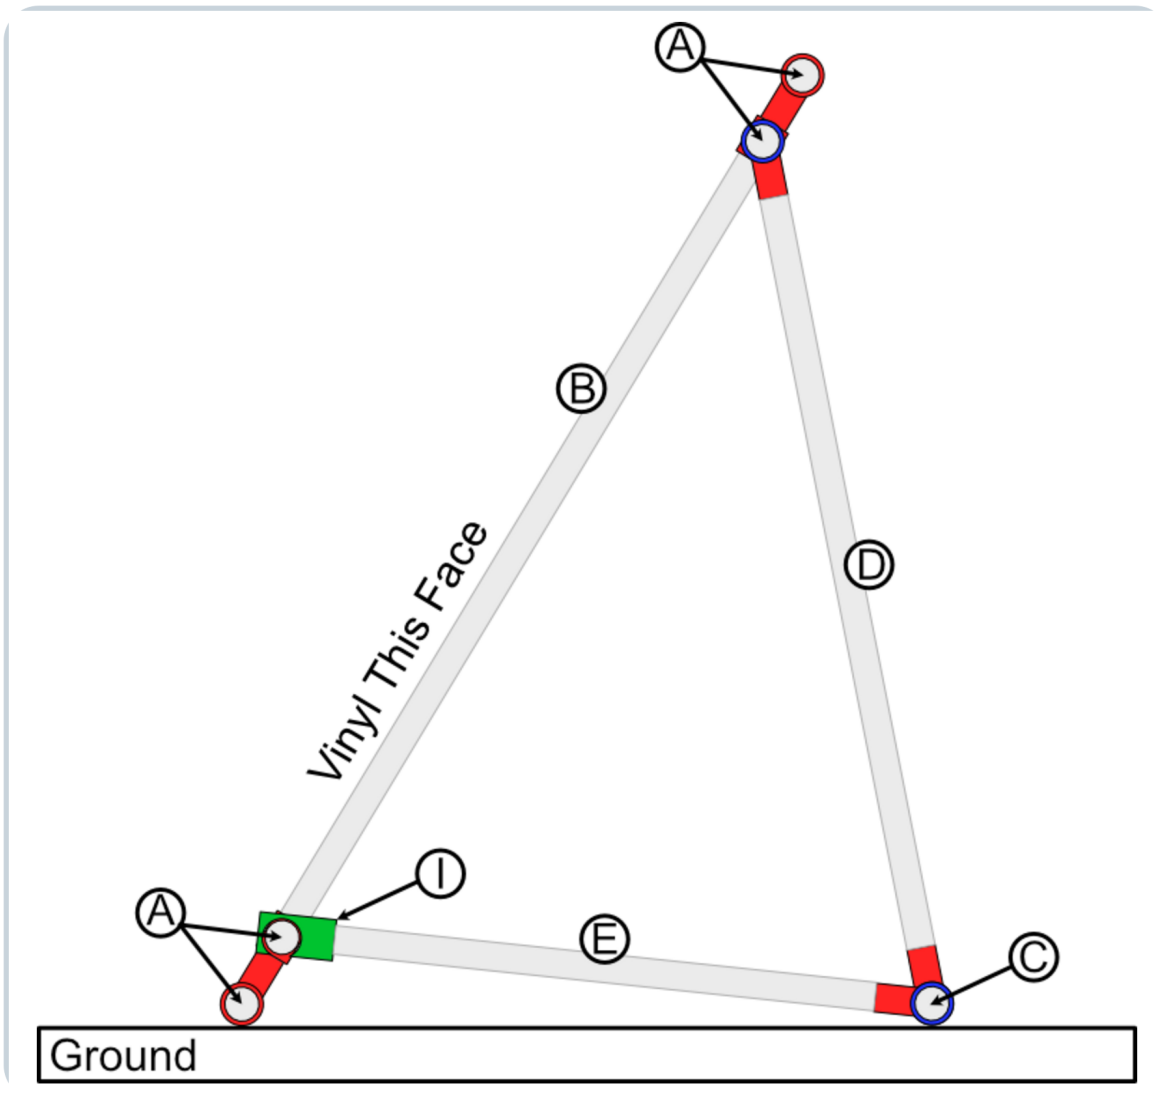

Figure 8. Deployed cutaway side elevation showing the B foot and C/E connection.
Deploy the rear support frame (C/D) and engage both bottom support arm clips (I) into the lower inner rail (Figure 8). Confirm that the wrapped vinyl and snap clamps do not bind, rub, or impede frame deployment, clip latching, or folding flat for transport.